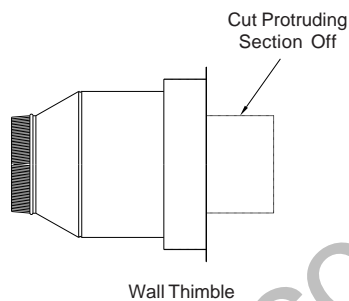

FIGURE 2
b) Next take the thimble and cut the protruding section of liner off at the flange (see figure 2).